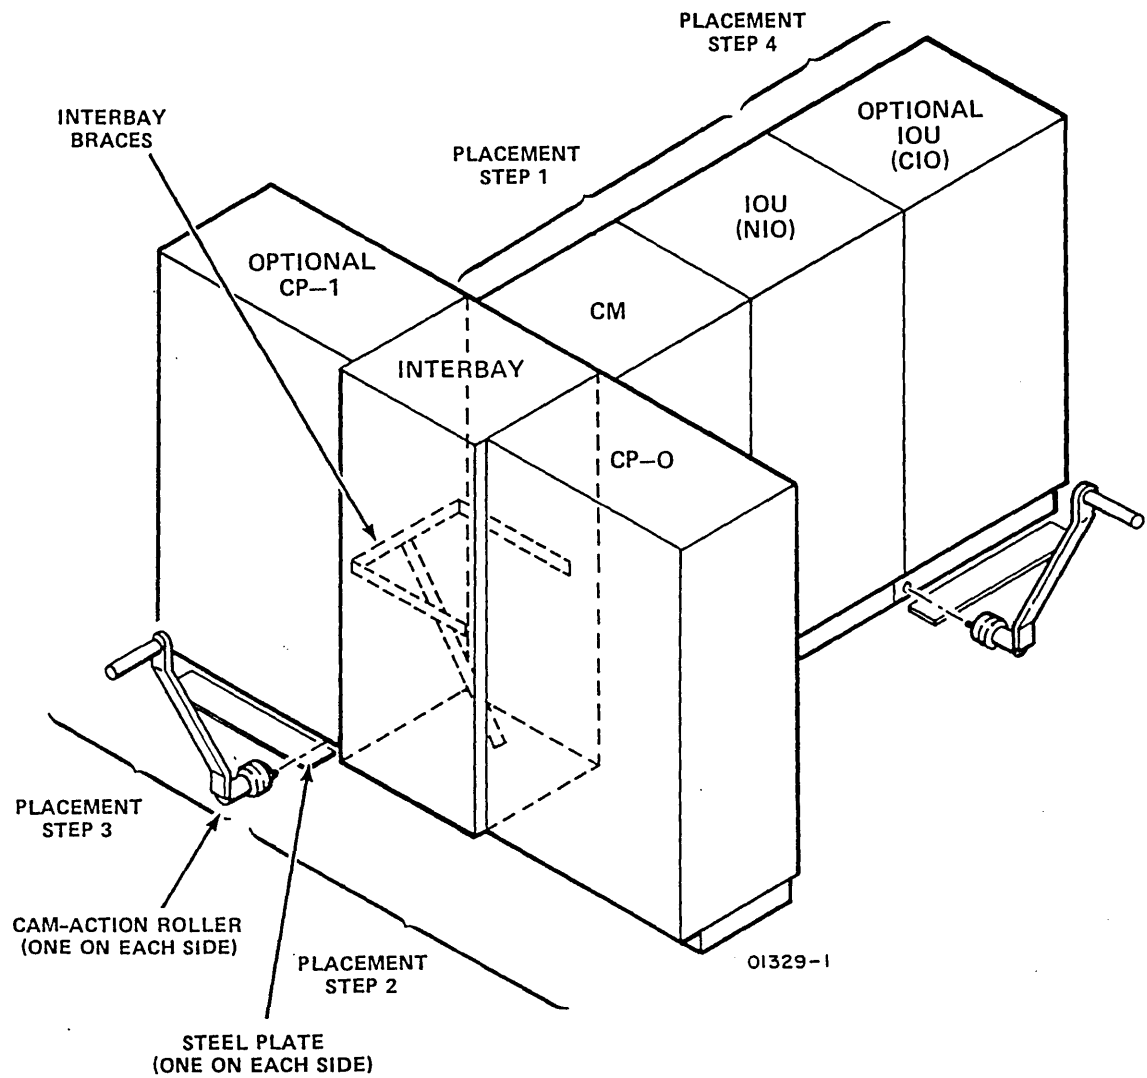

Figure 4-1. Cabinet Placements
- ___ 1. Place CM and IOU NIO cabinets (figure 4-1), using two Rol-a-lifts with padding between upper parts of Rol-a-lifts and cabinet to protect cabinet.
- ___ c. Install a cam-action roller on each side of CP-1 cabinet (figure 4-1). Place a heavy-gauge steel plate under each roller to protect floor.